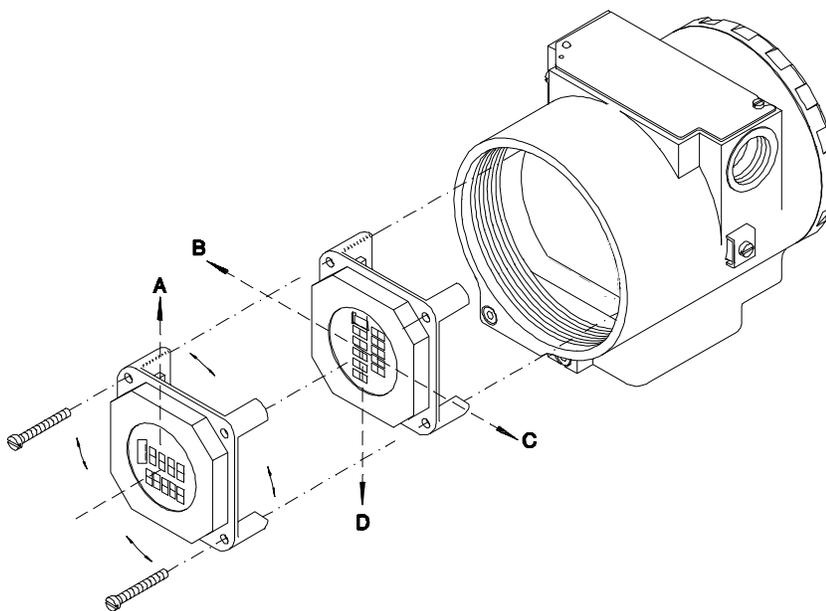

Figure 4.1 - Four Possible Positions of the Display
- Put input board (7) into housing (9).
- Anchor input board with its screws (6).
- Put main board (5) into the housing, ensuring all interconnecting pins are connected.
- Put display (4) into the housing, observing the four mounting positions (See *Figure 4.1 - Four Possible Positions of the Display*) "↑" should point in the direction desired as UP.
- Anchor main board and display with their screws (3).
- Fit the cover (1) and lock it using the locking screw (8).